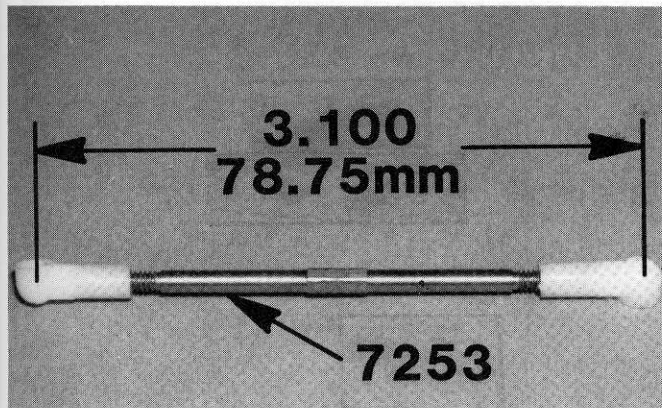

Fig. 100
□ **Fig. 100** Take two of the #7253 long turnbuckles, install and adjust the #6274 plastic ball cups to the dimensions shown. Note that on this strut one ball end faces forward and one faces to the rear.